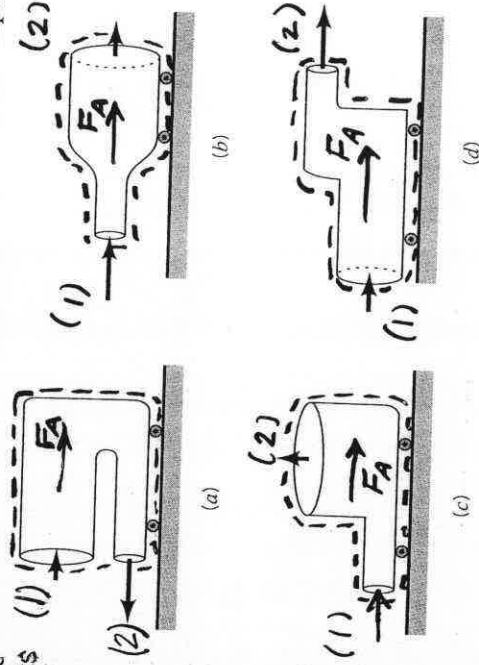

FIGURE P5.32
5.32 The four devices shown in Fig. P5.32 rest on frictionless wheels, are restricted to move in the  $x$  direction only and are initially held stationary. The pressure at the inlets and outlets